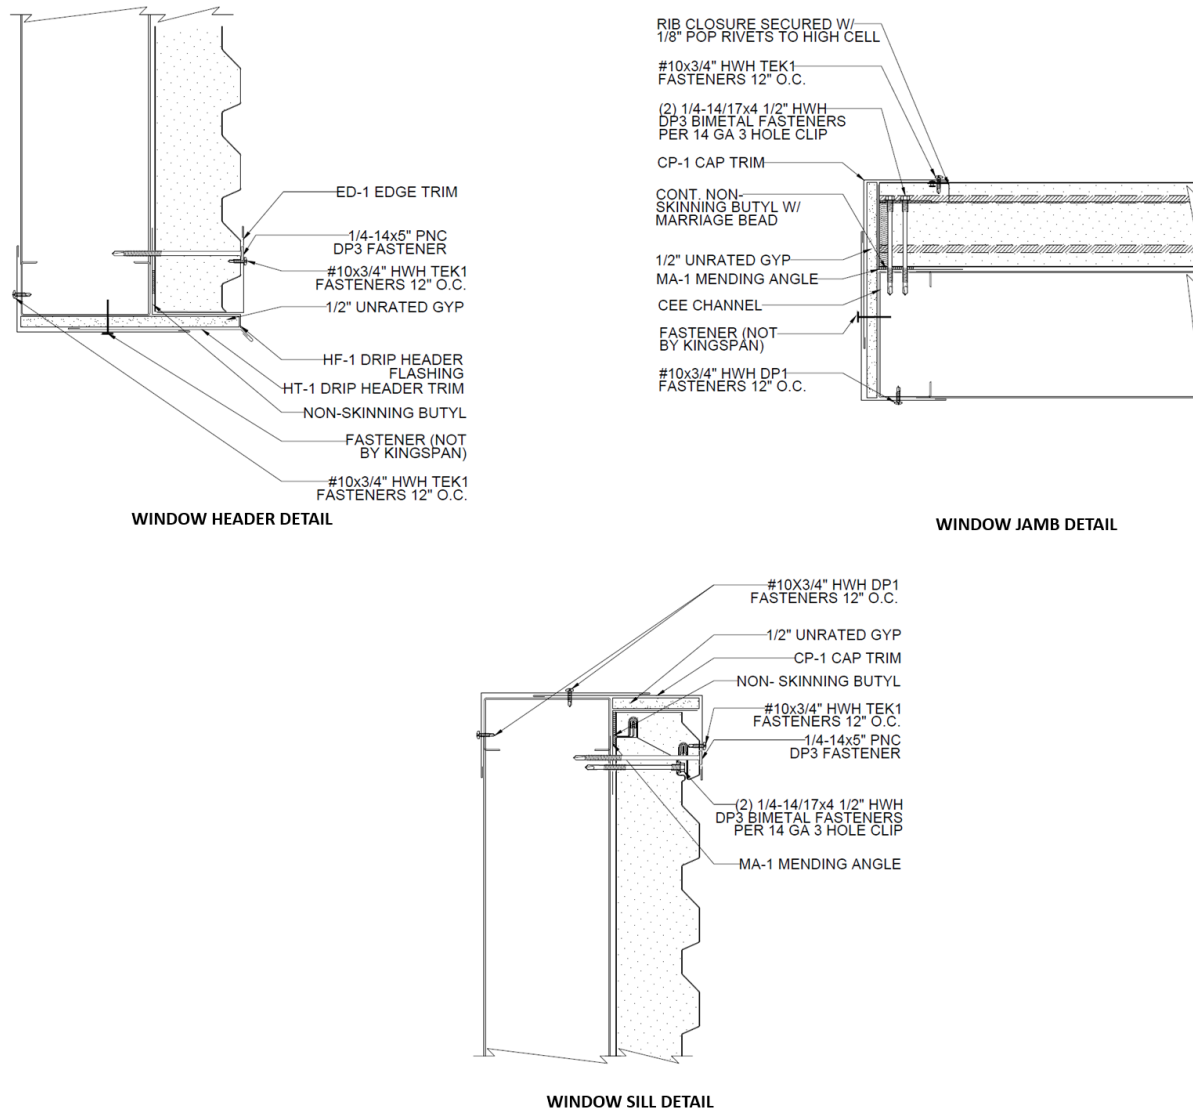

Figure 2. Window Detail for Horizontal Panel Installation
- A. WINDOW HEADER: Refer to Figure 2, Window Header Detail.
- B. WINDOW JAMB: Refer to Figure 2, Window Jamb Detail.
- C. WINDOW SILL: Refer to Figure 2, Window Sill Detail.